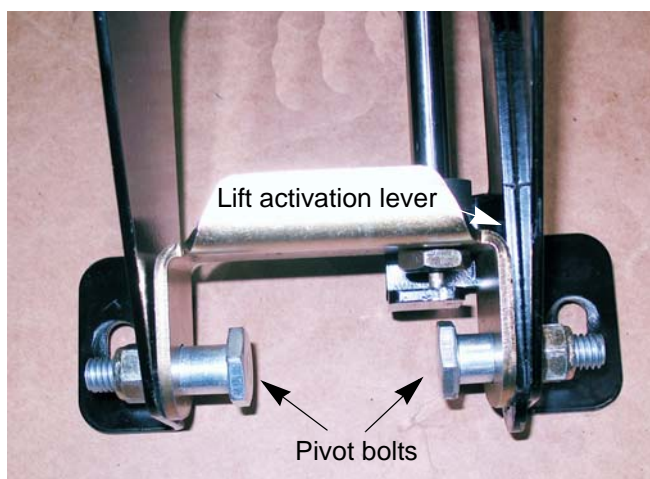

Figure 6.108
9. Install the steering column dampener pivot bolts using a 9/16" wrench and a 3/4" wrench. See Figure 6.108.